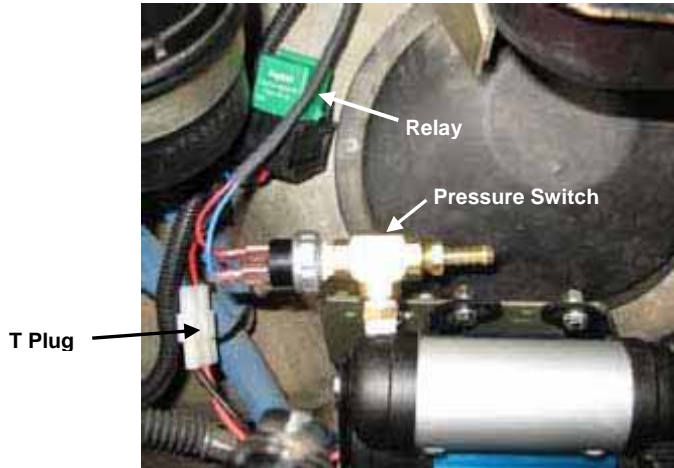

Figure 1 Compressor Wiring
14. **Removal.** Remove the air compressor (Figure 1) as follows: